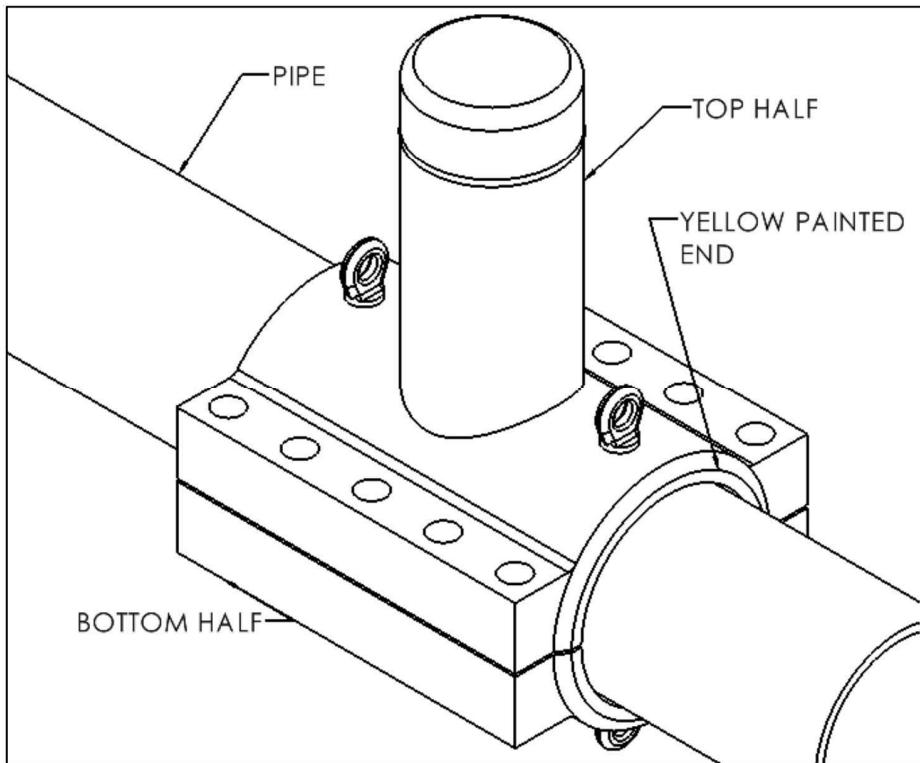

Figure 4
4. Assemble the PLIDCO Tap+Enclosure around the pipe and centered over the tap or obstruction being covered. Make sure the yellow painted ends are together as shown in Figure 4. At no point should any weld, leak, or anomaly be closer than $\frac{1}{2}$ " from the circumferential seals. Try to avoid having any leak spraying directly onto the longitudinal seals.